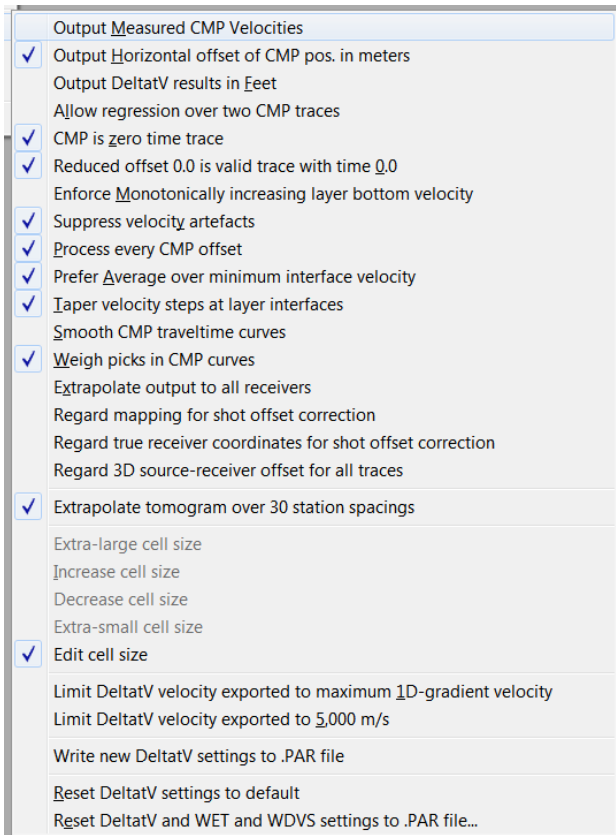
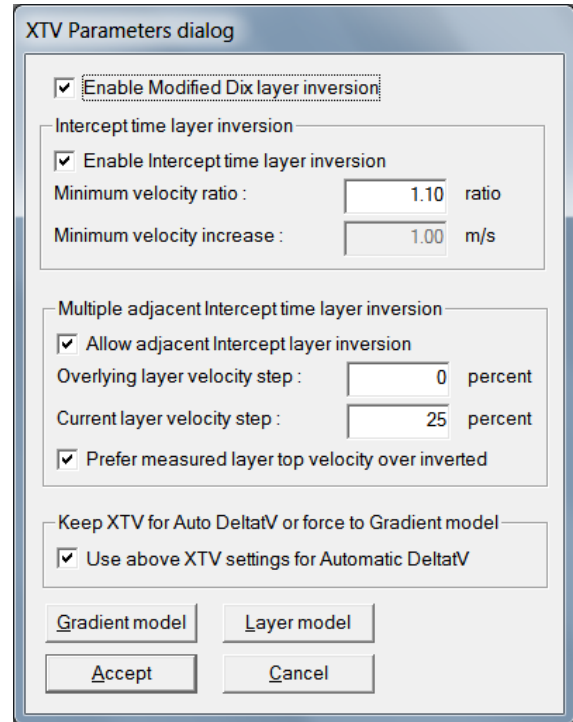
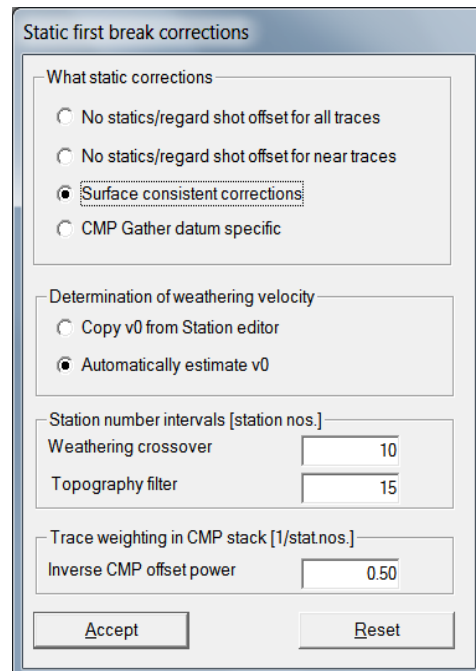
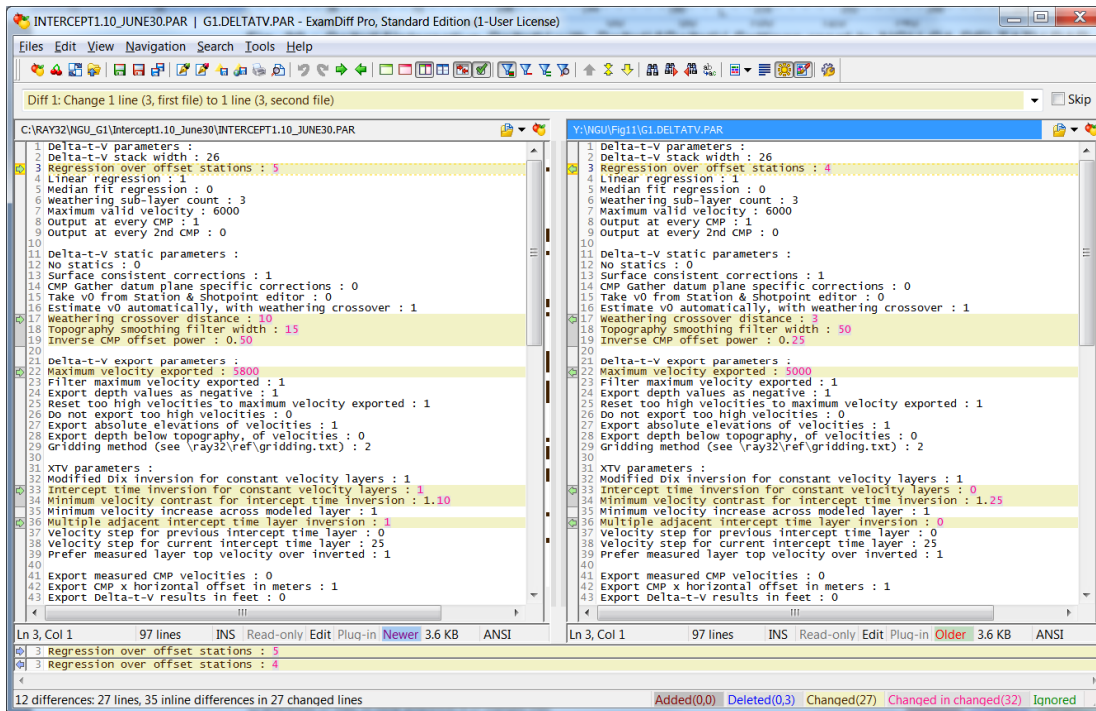

Fig. 26 : DeltatV\DeltatV Settings for Fig. 23 & Fig. 25
Fig. 27 : DeltatV\XTV parameters for Fig. 23 & 25. For Fig. 23 set *Minimum velocity ratio* to 1.05.
Fig. 29 : DeltatV\Interactive DeltatV\Static Corrections. Default settings for Fig. 23 and 25.
Fig. 33 : compare in ExamDiff NGU bad G1.DELTATV.PAR (right) used for Fig. 30 with our optimized INTERCEPT1.10_JUNE30.PAR (left; Fig. 29) used for Fig. 32.
- check *DeltatV|DeltatV settings|Taper velocity steps at layer interfaces* (Fig. 26)
- check *DeltatV|DeltatV settings|Suppress velocity artefacts* (Fig. 26)
- check *DeltatV|DeltatV settings|Process every CMP offset* (Fig. 26)
- check *DeltatV|DeltatV settings|Extrapolate tomogram over 30 station spacings* (Fig. 26)
- uncheck *...|DeltatV settings|Limit DeltatV velocity exported to maximum 1D-gradient velo.* (Fig. 26)
- select *DeltatV|XTV parameters* and edit as in Fig. 27. Set *Minimum velocity ratio* to 1.10.
- click button *Static Corrections*. Leave at defaults (Fig. 29) and click button *Accept*.
- obtain Fig. 23 as Fig. 25 but with *DeltatV|XTV parameters|Minimum velocity ratio* 1.05 (Fig. 27)
At offset range 0m to 80m Fig. 23 and Fig. 25 better match the true model (Fig. 24) than Fig. 6 for which *XTV parameters* (Fig. 27) were implicitly set to option *Gradient model* during *DeltatV|Automatic DeltatV*.
Fig. 23 : check DeltatV options *Suppress velocity artefacts, Process every CMP offset, Taper velocity steps at layer interfaces*. Uncheck *Limit DeltatV velocity to maximum 1D-gradient velocity* (Fig. 26). Increase *Max. velocity exported* to 5,800m/s (Fig. 9). Activate *Surfer plot limits* (Fig. 4). Layered XTV with *Minimum velocity ratio* 1.05 (Fig. 27).
Fig. 25 : Default *Weathering crossover* 10 stations (Fig. 29). Default *Topography filter* 15 stations (Fig. 29). See Fig. 33 for differences in *DeltatV parameter settings* compared to bad settings used by NGU for Fig. 30. Check DeltatV options *Suppress velocity artefacts, Process every CMP offset, Taper velocity steps at layer interfaces*. Uncheck *Limit DeltatV velocity to maximum 1D-gradient velocity* (Fig. 26). Increase *Max. velocity exported* to 5,800m/s (Fig. 9). Activate *Surfer plot limits* (Fig. 4). Layered XTV with *Minimum velocity ratio* 1.10 (Fig. 27).
Fig. 30 : *DeltatV|Interactive DeltatV* with *DeltatV|DeltatV Settings* reset to NGU bad G1.DELTATV.PAR used by NGU for Fig. 11 in 2020_044 NGU report. Bad **Weathering crossover** 3 stations. Bad **Topography filter** 50 stations. See Fig. 33 for differences in *DeltatV parameter settings* compared to default static correction settings used for Fig. 32.
Fig. 32 (same as Fig. 25) : Default **Weathering crossover** 10 stations (Fig. 29). Default **Topography filter** 15 stations (Fig. 29). See Fig. 33 for differences in *DeltatV parameter settings* compared to bad settings used by NGU for Fig. 30. Check *DeltatV* options *Suppress velocity artefacts*, *Process every CMP offset*, *Taper velocity steps at layer interfaces*. Uncheck *Limit DeltatV velocity to maximum 1D-gradient velocity* (Fig. 26). Increase *Max. velocity exported* to 5,800m/s (Fig. 9). Activate *Surfer plot limits* (Fig. 4). Layered XTV with *Minimum velocity ratio* 1.10 (Fig. 27).
In Fig. 30 we show *DeltatV* Interactive *DeltatV* inversion of above synthetic picks with parameter settings copied from/reset to bad G1.DELTATV.PAR made available by NGU for model G1. In Fig. 33 we compare NGU G1.DELTATV.PAR with our optimized INTERCEPT1.10_JUNE30.PAR settings used for Fig. 32 (same as Fig. 25).
Note the too low *Weathering crossover* 3 stations (Fig. 33 right) used by NGU compared to the default *Weathering crossover* 10 stations (Fig. 33 left; Fig. 29). Also note the too wide *Topography smoothing filter* 50 stations (Fig. 33 right) used by NGU compared to the default *Topography smoothing filter* 15 stations (Fig. 33 left; Fig. 29) used to obtain Fig. 32.
Both of these bad *DeltatV* static settings used by NGU (Fig. 33 right) contribute to over-correction with too large static time corrections to too smooth floating datum obtained with too wide *topography smoothing filter* of 50 stations and using too low overburden *weathering velocity* obtained with too low *weathering crossover* of 3 stations. This constitutes not an optimization but rather a pessimization of default *DeltatV* static corrections parameters by NGU. Compare Fig. 30 with Fig. 11 (leftmost column) in [2020_044 NGU report](https://rayfract.com/help/2020_044_NGU_report) to see similar artefacts caused by the same pessimized *DeltatV* settings. Fig. 30 was obtained with the remodeled synthetic picks using correct off-end shot elevations as specified in G1.SHOTPTS.SHO; see above.
Our latest version 4.03 released in July 2022 offers a new option at bottom of *DeltatV\XTV parameters* dialog named *Use above XTV settings for Automatic DeltatV* (Fig. 27). Check this option to obtain Fig. 23 and Fig. 25 with *DeltatV\Automatic DeltatV* instead of *DeltatV\Interactive DeltatV*. You still first need to increase the *Max. velocity exported* in dialog *DeltatV\DeltatV Export Options* or in *DeltatV\Interactive DeltatV\Export Options* (Fig. 9).
Here is the .zip archive with DeltatV settings file G1.DELTAV.PAR (Fig. 33) sent by NGU on July 4, 2022
Fig. 34 (same as Fig. 25) : Layered XTV with *Minimum velocity ratio* 1.10 (Fig. 27). Default **Weathering crossover** 10 stations (Fig. 29). Default **Topography filter** 15 stations (Fig. 29). Check DeltatV options *Suppress velocity artefacts*, *Process every CMP offset*, *Taper velocity steps at layer interfaces*. Uncheck *Limit DeltatV velocity to maximum 1D-gradient velocity* (Fig. 26). Increase *Max. velocity exported* to 5,800m/s (Fig. 9). Activate *Surfer plot limits* (Fig. 4).